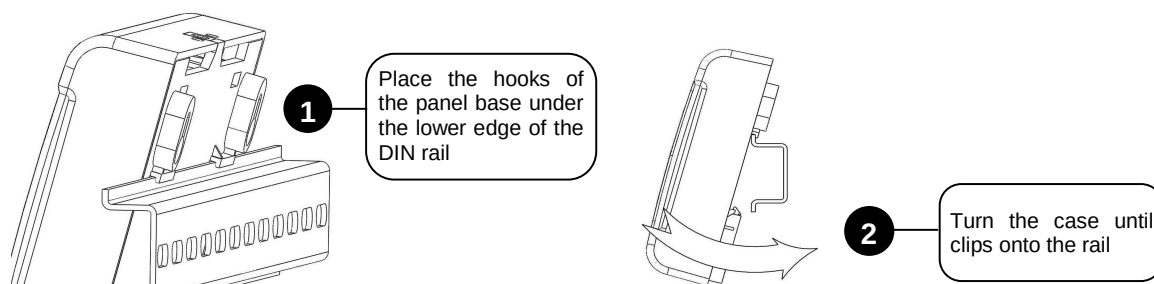

Figure 4. Mounting the Panel on a DIN Rail
2. Install the device on the DIN rail as shown in Figure 4.